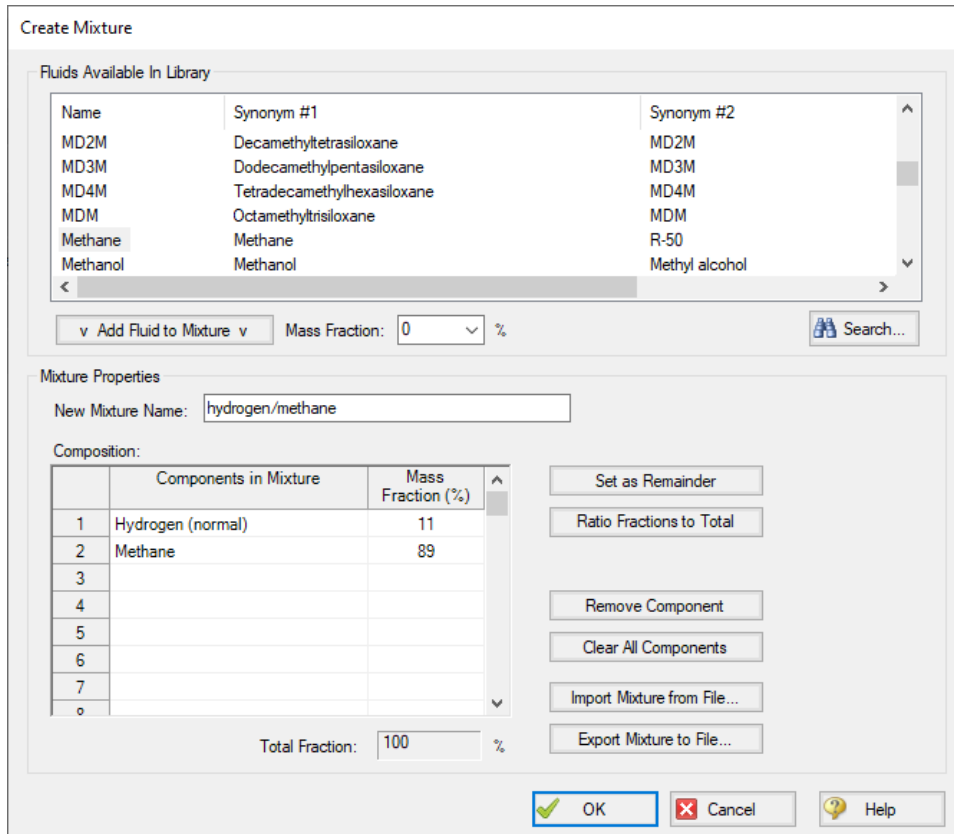

Figure 1: The Create Mixture window is used to create mixtures of NIST REFPROP fluids
9. The Create Mixture window should now appear as shown in Figure 1